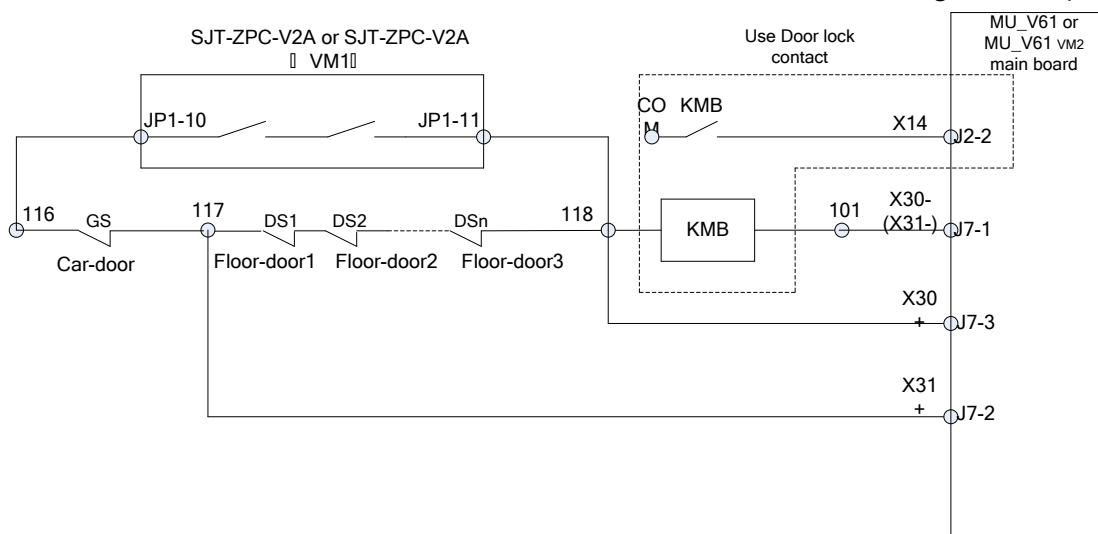

Figure F12.1 BL6-U Series Elevator Integrated Controller Floor/Car Door Short-circuited Detection Plan
- As shown in figure F12.1, when the car-door is short connected (116 and 117), after the elevator opens, the car-door opens, but the car-door will be checked to be shorted, the X30 is invalid, the X31 is valid, the system will output No. 26 error, and the elevator cannot run with door closed.
- In order to accord with the new national standard (or new inspection rules), the floor-door or car-door is short connected, which can be detected effectively and stop normal operation. As shown in figure F12.1, a safety circuit board (SJT-ZPC-V2A or SJT-ZPC-V2A (VM1)) must be installed, and Advance Door Open function or Re-leveling function is required to be enabled. (F4-06-19 or F4-06-20 must be set to ON).